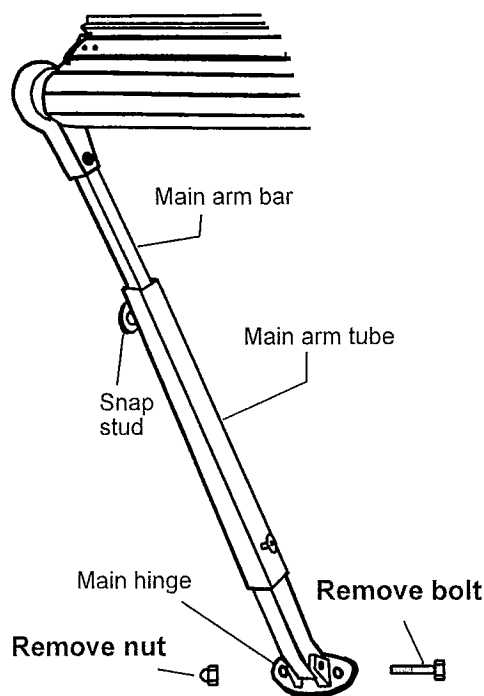
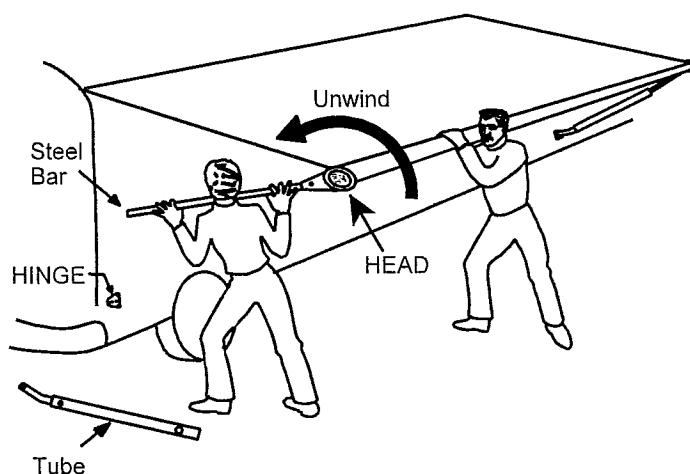

Figure A1
Figure A2
2. Set the front rafter arm and the front Z- Lock, if any, to lock the awning open. Support the roller tube as shown in **Fig. A2**. **Caution Main arm may be under spring tension.** Unbolt rear main arm from the lower main hinge (**Fig. A1**) and slide the main arm tube assembly off of the main arm bar.
3. Using the main arm bar as a lever, unwind the spring completely by turning the main arm bar counter-clockwise. (**Fig. A2**) The number of turns will vary with the length of the awning. It will be approximately the length of the awning plus 7 (e.g. 21' awning; 28 turns).
- a) The single torsion spring is wound by turning the head casting clockwise (facing forward), using the stainless steel support arm bar as a lever (see Fig.A2).